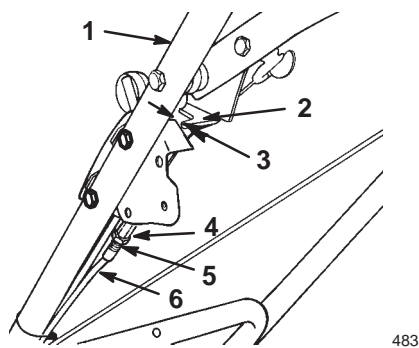

Figure 27
A. Loosen the jam nut on the blade brake cable (Fig. 27).